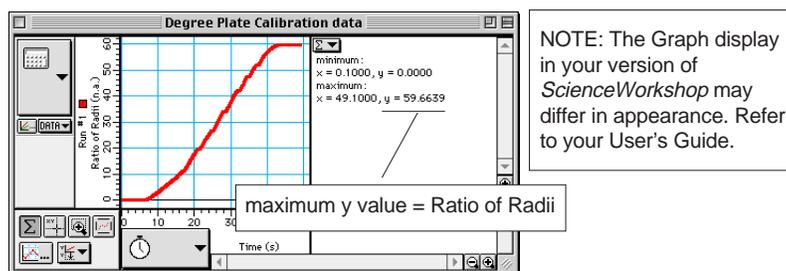

Figure 10: Sample Degree Plate Calibration Data
7. In the Graph display, use the built-in Statistics tools to find the maximum value of the "Ratio of Radii" (i.e., the maximum of y - see Fig. 10). This value is the exact ratio of the Degree Plate radius to the small Pinion post radius. (Note: This value should be close to 60.) Record the actual ratio.